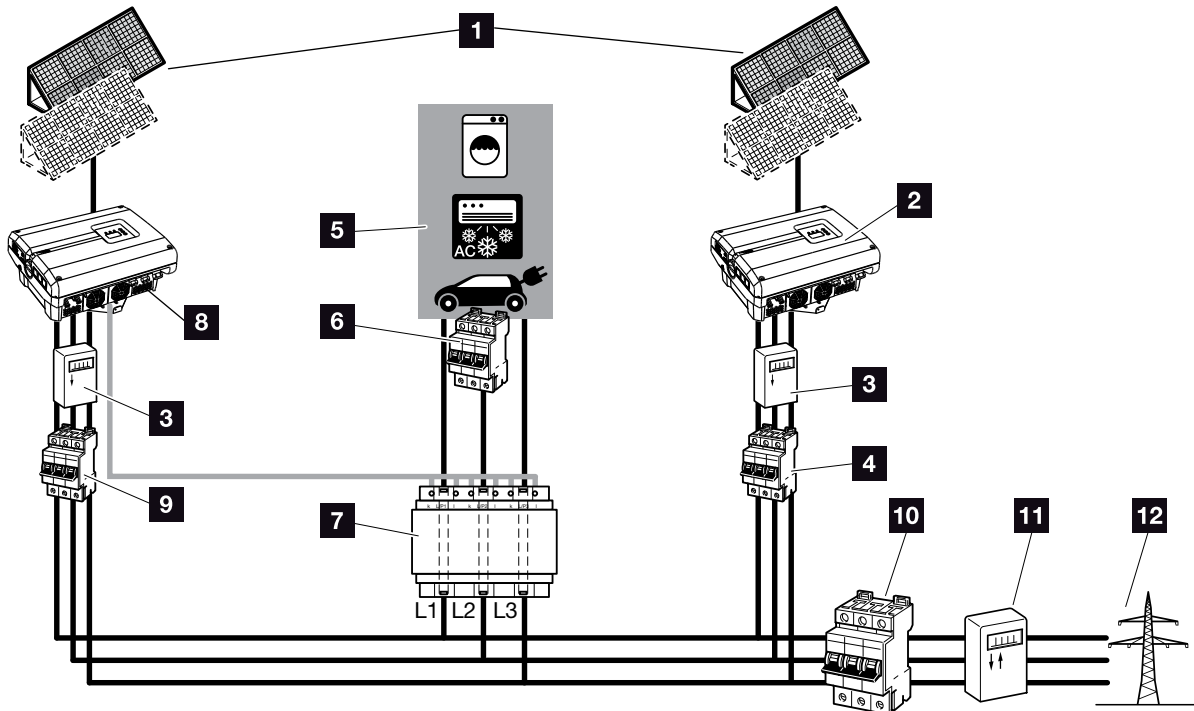
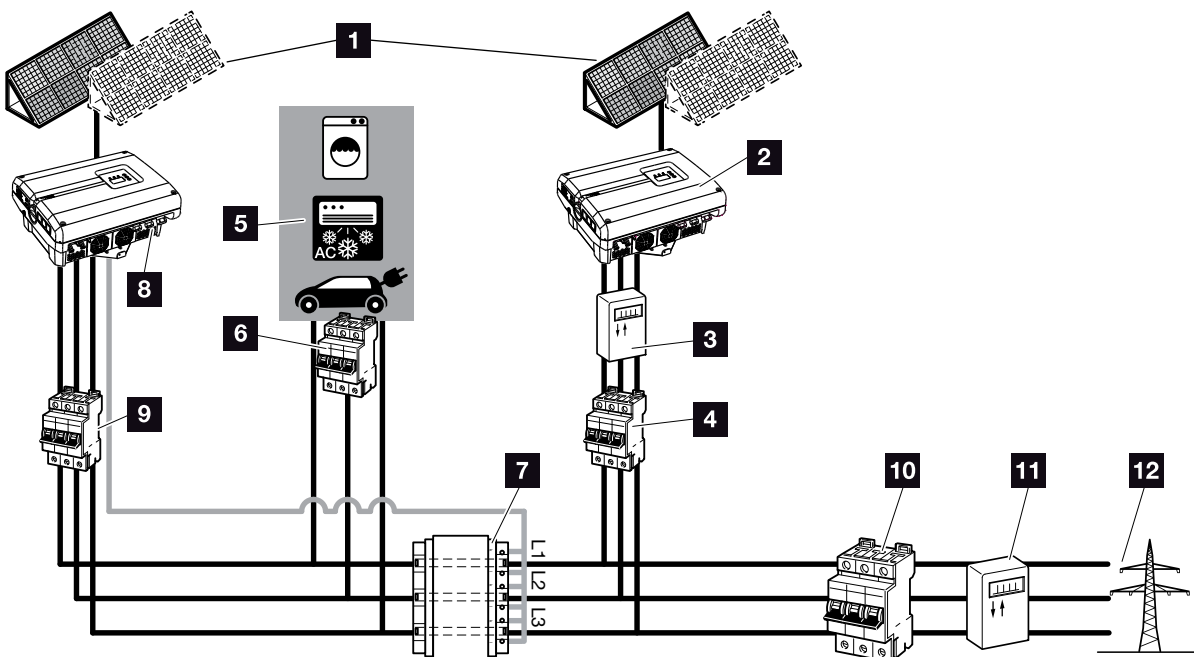

Fig. 78: Connection of several inverters - current sensor position mode 1 - home consumption data (possible as of PIKO 4.2)
Fig. 79: Connection of several inverters - current sensor position mode 2 - grid consumption data (possible as of PIKO 4.2)
2. Integrate inverters into the system as shown in the diagrams  **Fig. 78, Fig. 79** and connect them properly